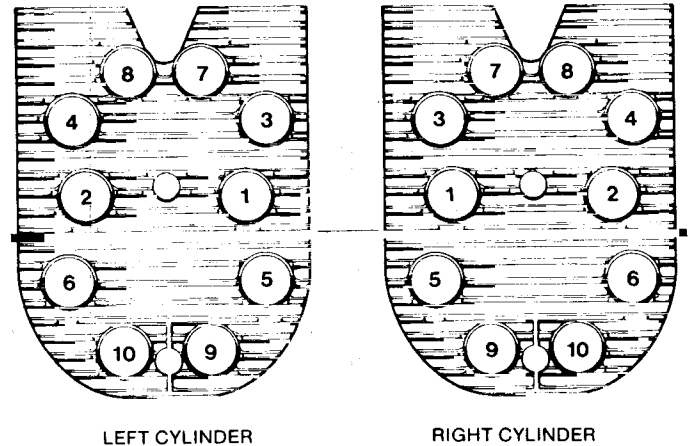

FIGURE 29. HEAD BOLT TIGHTENING SEQUENCE
6. Follow the head torque sequence shown in Figure 29 tightening all nuts to 5 ft-lbs (7 Nm), then 10 ft-lbs (14 Nm), then to the torque specified in the ASSEMBLY TORQUES section. Recheck all nuts for correct torque.